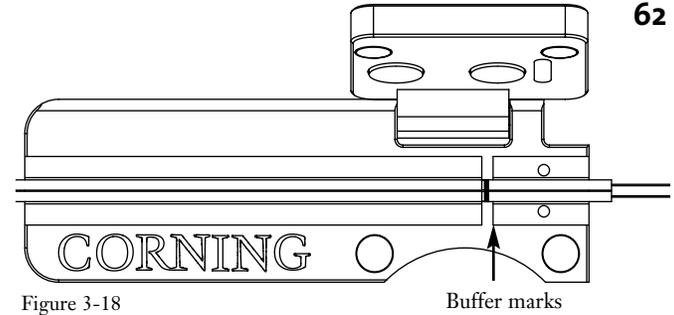

Figure 3-18
**3.6-3** Using the two pins as a guide, place the fibers into the groove in the handler. The bare fiber should not contact the handler – only place coated fiber in the groove (Figure 3-18).